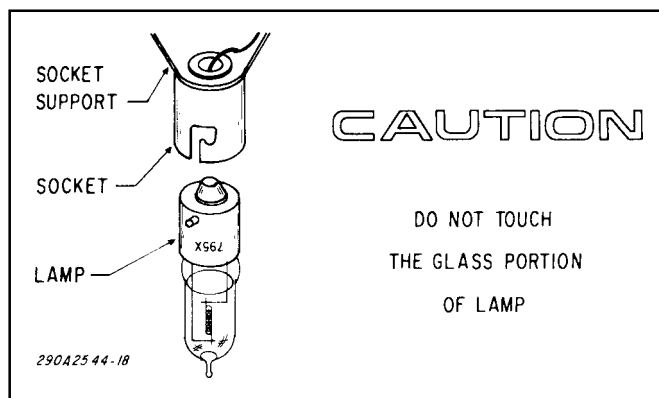

Figure 6-7. Pod Lamp Replacement.
c. To replace the halogen lamp, twist to unlock and then pull the defective lamp out of the socket. Install a new #795X lamp in the socket (see figure 6-7). Refer to paragraph 6-7 for Federal Signal Part Number.